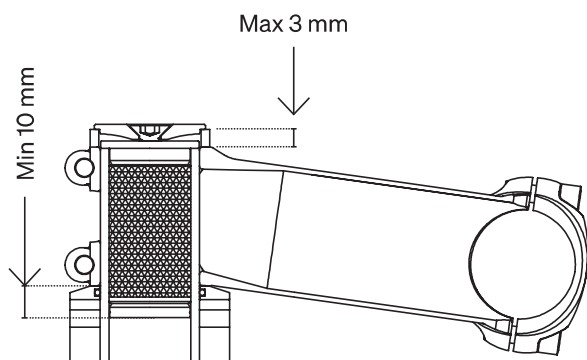

Fig. 5.2.2
- 3 • It is allowed to use a 5 mm spacer above the stem, in this case make sure that the expander comply the point 1 (Fig. 5.2.2).